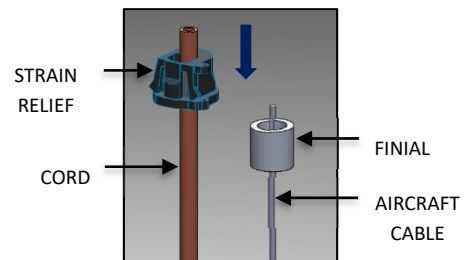

FIG. 17 – STRAIN RELIEF AND FINIAL
- Pass the FINIAL and the STRAIN RELIEF through the AIRCRAFT CABLE and CORD respectively. Adjust the STRAIN RELIEF as needed to get the desired CORD length as shown in FIG. 17 below.